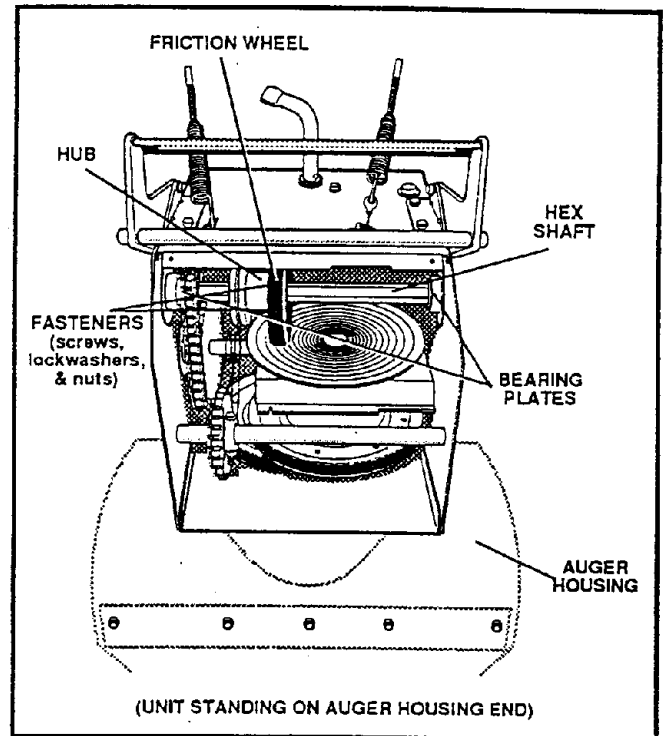

FIG. 15-SERV & ADJ
- Stand the snow thrower up on the auger housing end (See FIG. 15-SERV & ADJ).
- Remove the three (3) fasteners (screws, lockwashers, and nuts) securing the friction wheel to hub (See FIG. 15-SERV & ADJ) and set fasteners aside.